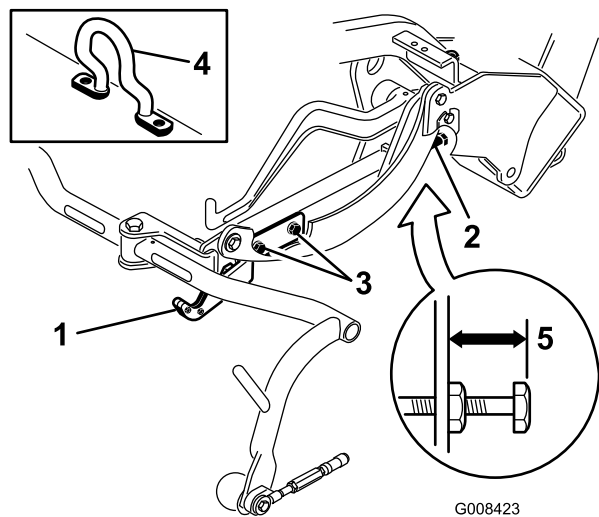
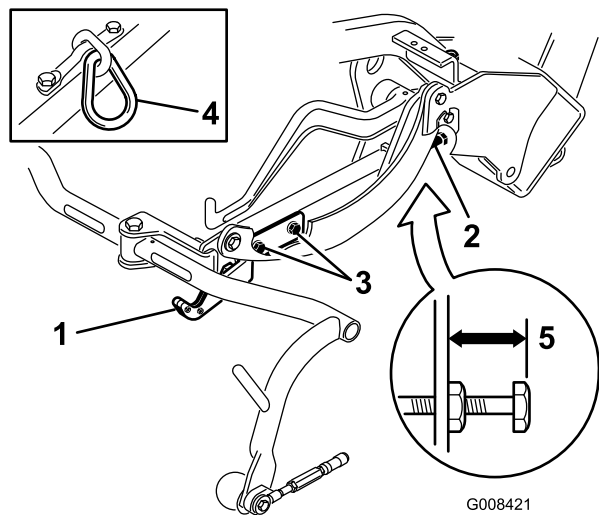
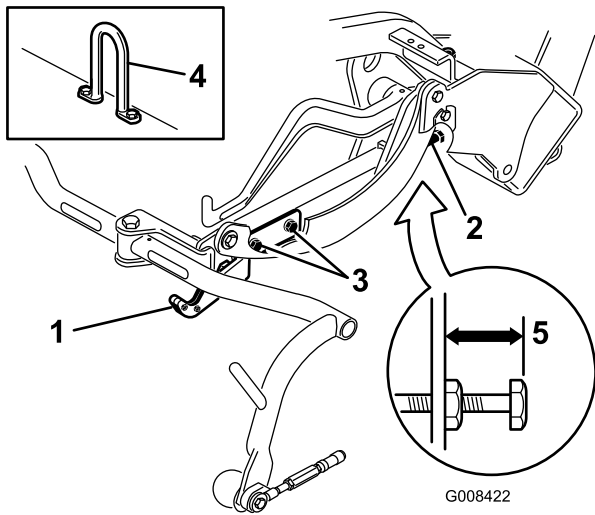

Figure 10
Figure 11
Figure 12
3. On cutting units equipped with a chain link or a straight lift hook (Figure 11 and Figure 12 insets), verify that the distance from the top of the carrier frame adjusting screw to the back of the carrier frame is 22 mm (7/8 inch). If the distance is not 22 mm (7/8 inch), proceed to step 4. If the cutting unit is equipped with an offset lift link (Figure 10), proceed to the next step.
Check the transport height (Figure 11 and Figure 12) and adjust it if required.
2. On cutting units equipped with a offset lift hook (Figure 10 inset), verify that the distance from the top of the carrier frame adjusting screw to the back of the carrier frame is 25 mm (1 inch). If the distance is not 25 mm (1 inch), proceed to step 4.
4. Loosen the transport plate mounting screws (Figure 11, Figure 12, and Figure 10).
7. If the carrier frames are not at the same height, loosen the jam nut on the carrier frame adjusting screw (Figure 10, Figure 11, and Figure 12). Rotate the screw outward to raise and inward to lower. Tighten the jam nut after you obtain the proper height.